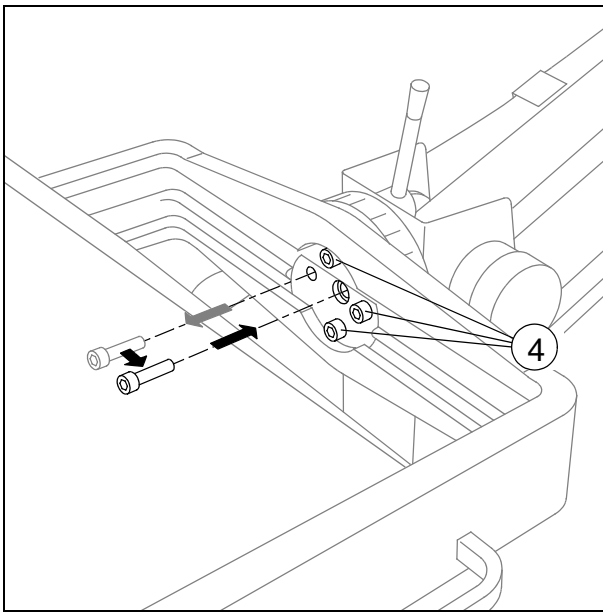

Fig. 3
- Take out one of the four mounting screws and insert it into the threaded hole and tighten it (arrow/Fig. 3).
- Disconnect the single tank generator together with the bracket from the stand by removing the three remaining screws (4/Fig. 3).
- Secure the three mounting screws (4/Fig. 3) with Loctite 242 and tighten them.
- Remove the fourth mounting screw from the threaded hole (arrow/Fig. 3) and reinstall it in its former position. Secure the screw with Loctite 242.